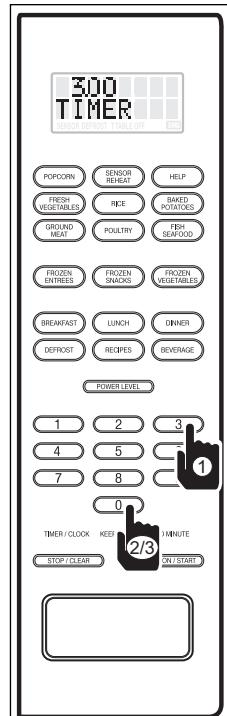

Figure 3-26.
3. Enter amount of time for the timer to countdown. For example: 3 minutes; press the number 3 key, then the number 0 key twice and the display will flash "3.00 TIMER - PRESS TIMER" (See Figure 3-26).